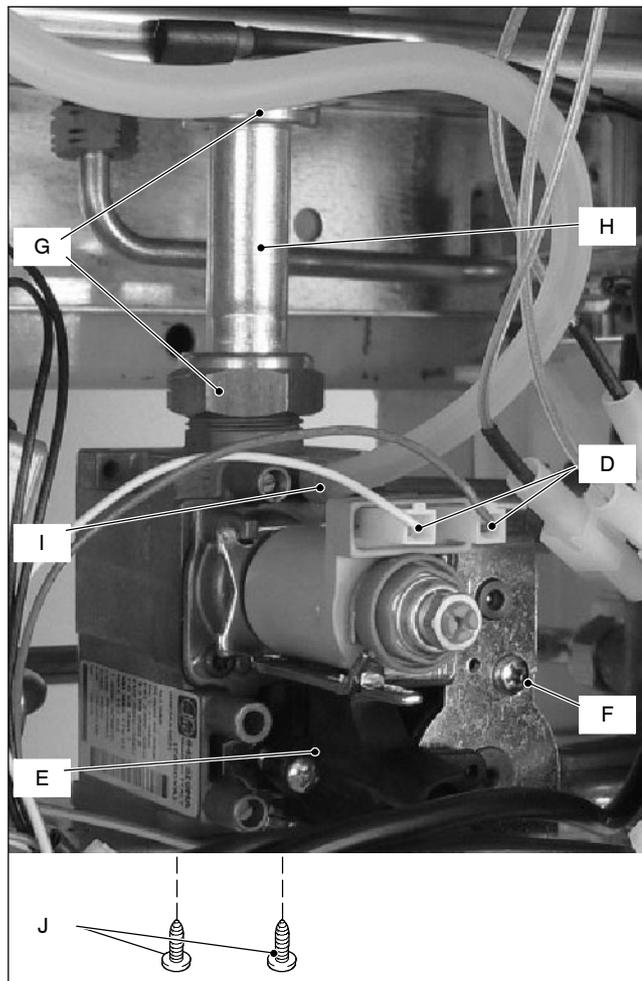

Fig. 5
- 2 Disconnect the connectors *D* (Fig. 5) from the modulating operator and measure the electrical resistance of the coil. Its electrical resistance value must be approx. 80 Ω*.
- 2 Disconnect the electrical connector *E* (Fig. 5).
- 2 Disconnect the connector *E* (Fig. 5).
- 2 Disconnect the connectors *D* and *E* (Fig. 5).